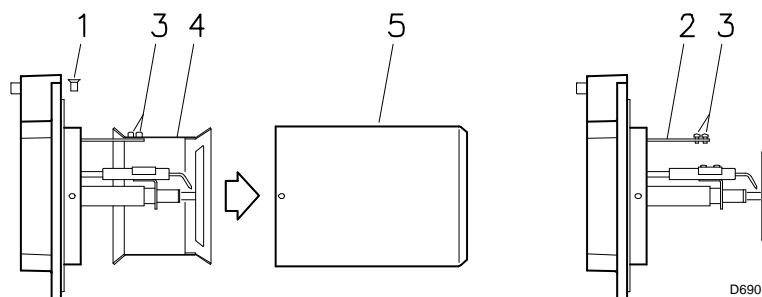

Fig. 8
4.5 Securing the burner to the boiler (Fig. 8)
- Unscrew the screws 1) (Fig. 8) and disassemble the blast tube 5)